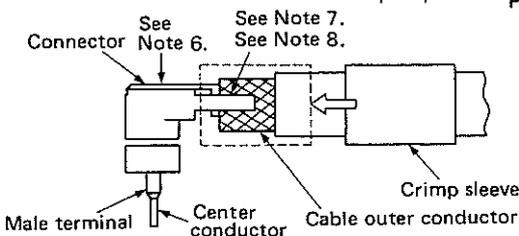

Fig. 5
- (2) Bend the connector lid, as shown in Figure 5. Note 6: Directly press the lid to bend it. Do not hold the connector by the connector shell when bending the connector lid. Note 7: Place the outer conductor in the support bar. Note 8: At this time, the support bar must be inside the crimp sleeve.
- (3) The clearance between the outer insulation and the end face of the LP shell must be 5.2 mm or less.
- (4) Slide the crimp sleeve further in up to the base of the support bar. (Fig. 5 dotted line section)